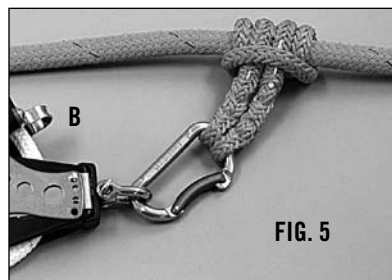

FIG. 5
5. (FIG. 5) Attach the prusik to the B block using the provided link. The system is now ready for use.